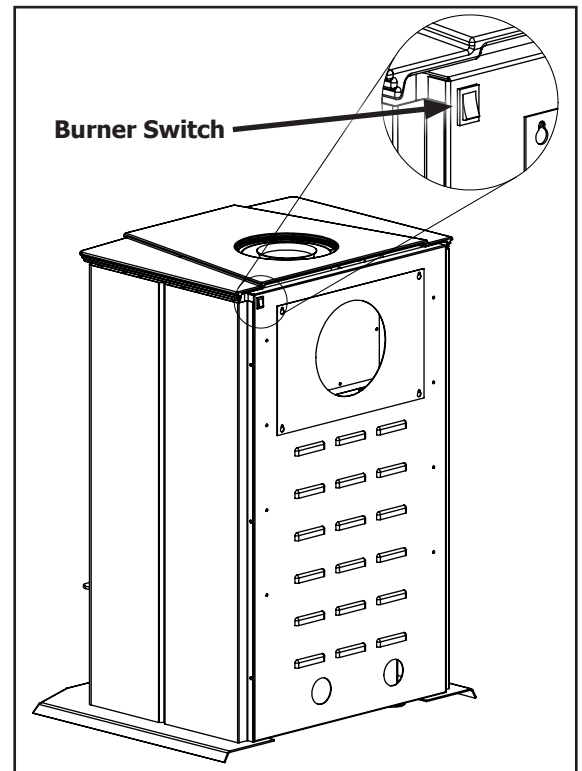

Figure 6. Burner Switch
- C) Flip the burner switch, located at the top right rear of the S30, to ON (see Figure 6)